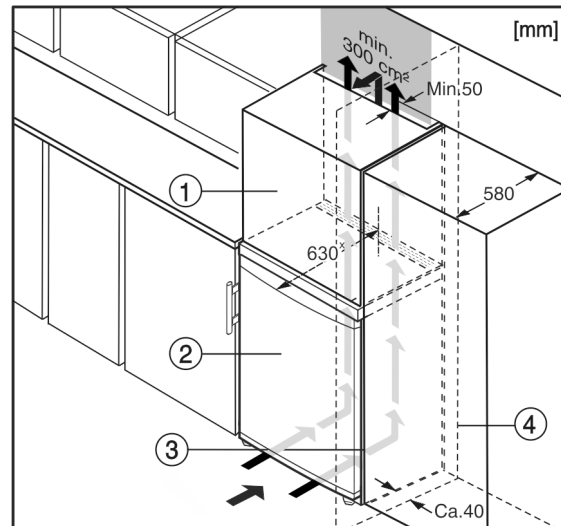

Fig. 10
The appliance can be built into kitchen units. A top cupboard Fig. 10 (2) can be added above the appliance in order to bring the appliance Fig. 10 (1) up to the height of the fitted kitchen units.
If you are integrating the appliance into a kitchen unit (max. depth 580 mm) you can install it right next to the kitchen cabinet Fig. 10 (3). The appliance measures 34 mm × at the side and 50 mm × at the centre in relation to the front of the kitchen cabinet.\*
If you are installing the appliance with the hinges next to a wall Fig. 10 (4), the distance between the appliance and the wall must be at least 40 mm. This is how far the handle protrudes when the door is open.\*